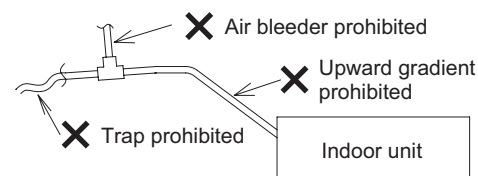

Fig. 2-47
- Do not install the drain pipe with an upward gradient from the drain port connection. This will cause the drain water to flow backward and leak when the unit is not operating. (Fig. 2-47)
- Do not install an air bleeder as this may cause water to spray from the drain pipe outlet. (Fig. 2-47)
- Do not provide U-trap or bell-shaped trap in the middle of the drain pipe. Doing so will cause abnormal sound. (Fig. 2-47)